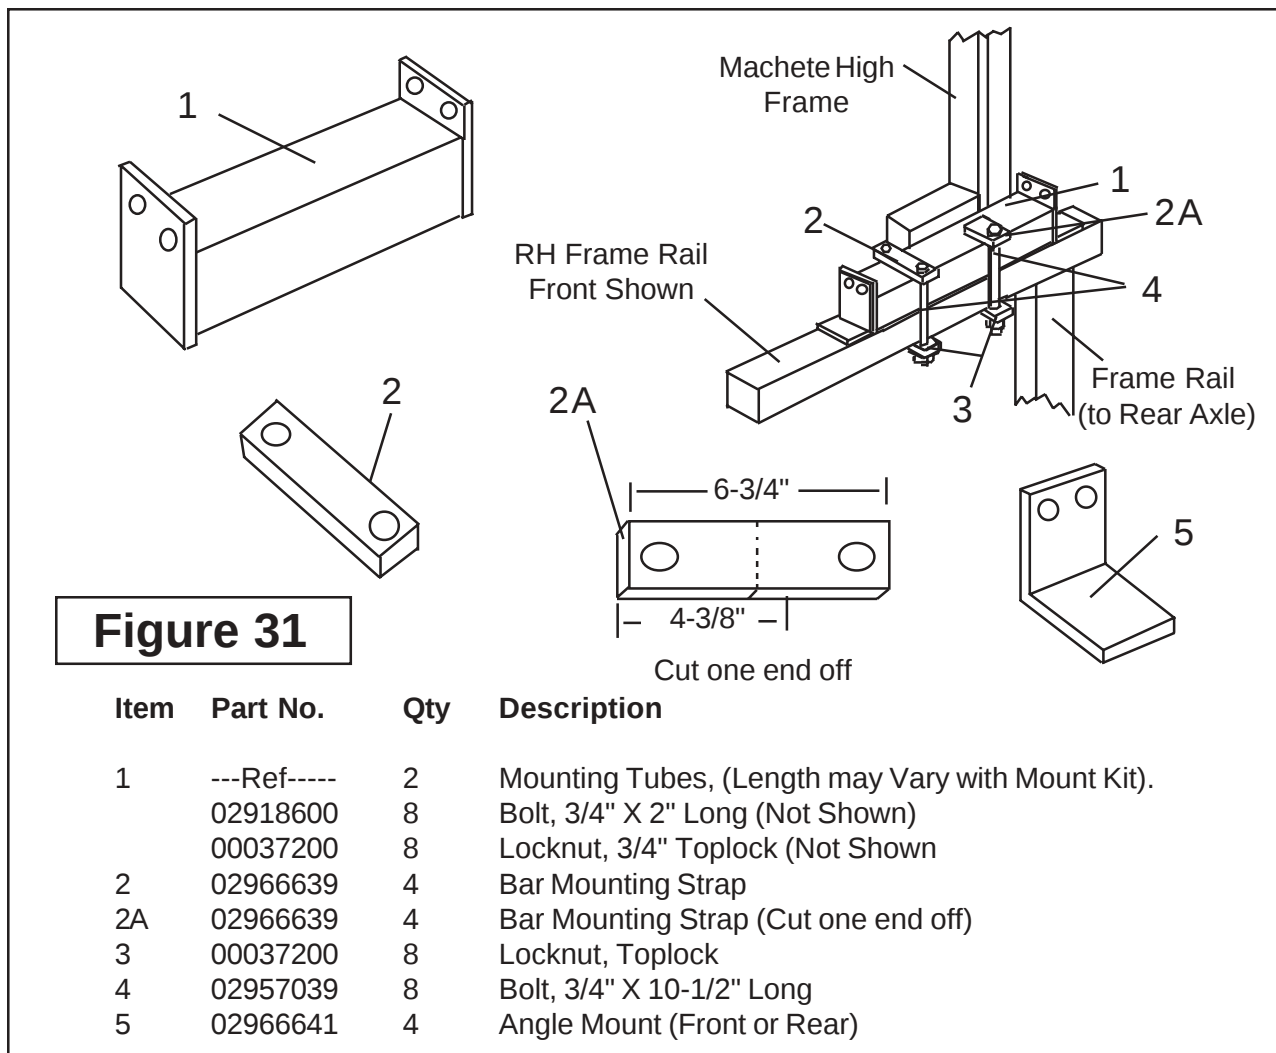

Figure 31
3. Go back and check to make sure you have tack welded the Frame Rail to Mounting Plate and Stabilizer to Frame Rail (**See Figures 31 through 39**).
5. Locate Mounting Tubes and Hardware. See Figure 31 for breakdown of these components.
- A. There will be one Mounting Tube for each side; these tubes are the same so it will not matter which is on which side. The Mounting Tubes are the same on either end. (See Figure 31 - Item 1).
- B. There will be 8 Bar Mounting Straps (Part # 02966639); these straps are the same but later in the assembly process 4 will have to be cut (See Figure 31 - Item 2 & 2A).
- C. There are 4 Angle Mounts (Part # 02966641), these have two holes in them and when mounted the hole will be up. (See Figure 31 - Item 5).
- D. There are 8 bolts (Part # 02957039) & Locknuts (Part # 00037200), the bolts are 3/4" X 10-1/2" Long (See Figure 31 - Item 4).
8. Weld Bar Mounting Straps. The Rear bar Mounting Straps will have to be cut (See Figure 31) and welded to the top of the Mounting Tube (See Figure 43). Another one cut off and welded to the Bottom of the Frame Rail. (See Figure 45) The length of these Bar mounting straps is cut so it will not be sticking over past frame rail.
9. Recheck that all components are Tack Welded. (See Figures 31 through 45)